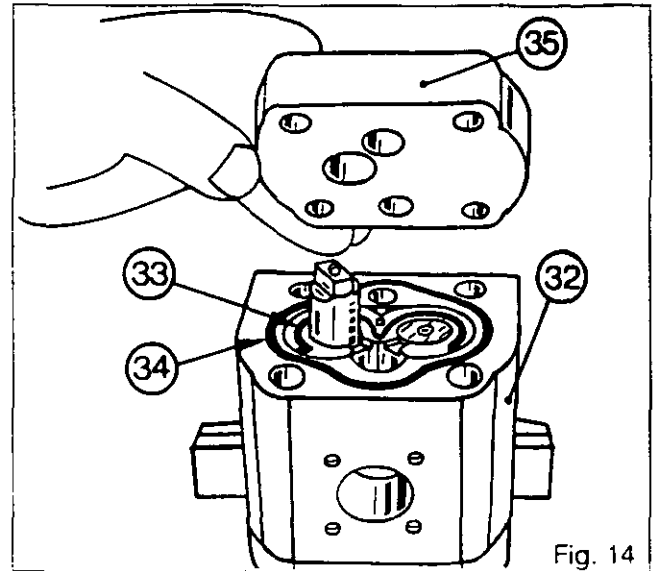
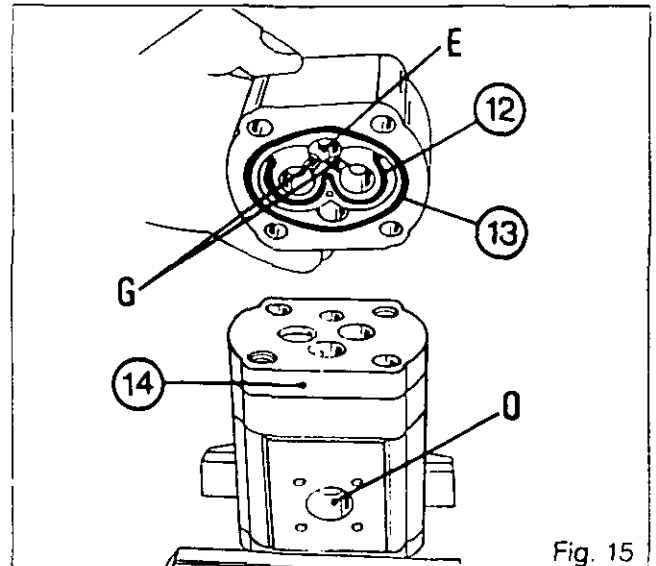
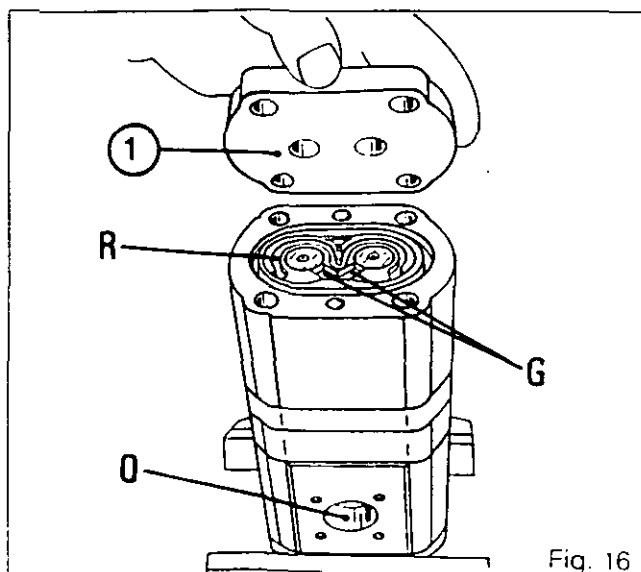

Fig. 14
Fig. 15
Fig. 16
78. Position the composite seal (33) and seal (34).
Assemble the flange (35) on the high-pressure stage (32) (Fig. 14) according to the marks made at the time of disassembly.
79. Centre the flange (35). Fit and tighten the screws (36) to a torque of 40-47 Nm.
80. Refit the driver (15) against the flat surface of the driving pinion (28). Position the seal (16).
81. Fit the intermediate plate (14) according to the marks made at the time of disassembly.
82. Fit the bearing assembly (11) (with recess), located by the pin (10), in the low-pressure stage (37). Position the lubrication channels «G» and the recess «E» towards the intake orifice «O», and the groove «R» of the composite seal (12) towards the intermediate plate (14) (Fig. 15).
83. Position the composite seal (12) and seal (13) (Fig. 15).
84. Assemble the low-pressure stage (37) on the intermediate plate (14) according to the marks made at the time of disassembly.
85. Place the pinions (8) and (9) in the low-pressure stage, ensuring that the flat surface of the driving pinion (9) enters the driver (15).
86. Fit the bearing assembly (5) (without recess), located by the pin (6), in the low-pressure stage (37). Position the lubrication channels «G» towards the intake orifice «O», and the groove «R» of the composite seal (3) towards the cover plate (1) (Fig. 16).